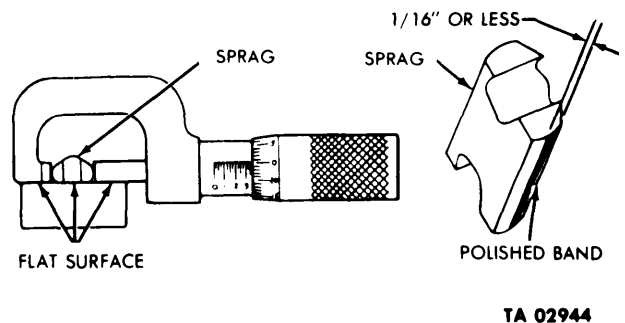

Figure 4-46. Inspecting Sprags for Wear.
4-33. General. The repair and replacement standards included herein provide the minimum, maximum, and key clearances of new parts. (See fig. 4-46, 4-47, 4-48, 4-49, and 4-50, and corresponding tables 4-5, 4-6, 4-7, and 4-8.) Standards also provide wear limits which indicate the point to which a part or parts may be worn before replacement is required, in order to receive maximum service with minimum replacement. Normally, all parts which have not been worn beyond the dimensions shown in the "Wear Limits" column, or damaged by corrosion, will be approved for service. An asterisk (*) in the "Wear Limits" column, indicates that the part or parts should be replaced when worn beyond the limits given in the "Size and Fit of New Parts" column. In the "Size and Fit of New Parts" and "Wear Limits" column, the letter L indicates a loose fit (clearance) and a letter T indicates a tight fit (interference).
4-34. Repair and Replacement Standard Points of Measurement. Figures 4-46, 4-47, 4-48, 4-49, and 4-50, and corresponding tables 4-5, 4-6, 4-7 and 4-8, provide the repair and replacement standard points of measurement for transfer model T-136-21.
b. Inspect the sprags for evidence of wear on the cam surface which contacts the inner race. If the wear on the inner edge of the sprag is not more than 1/16 of an inch wide, the sprag is still usable. This inspection procedure is shown in fig. 4-46.